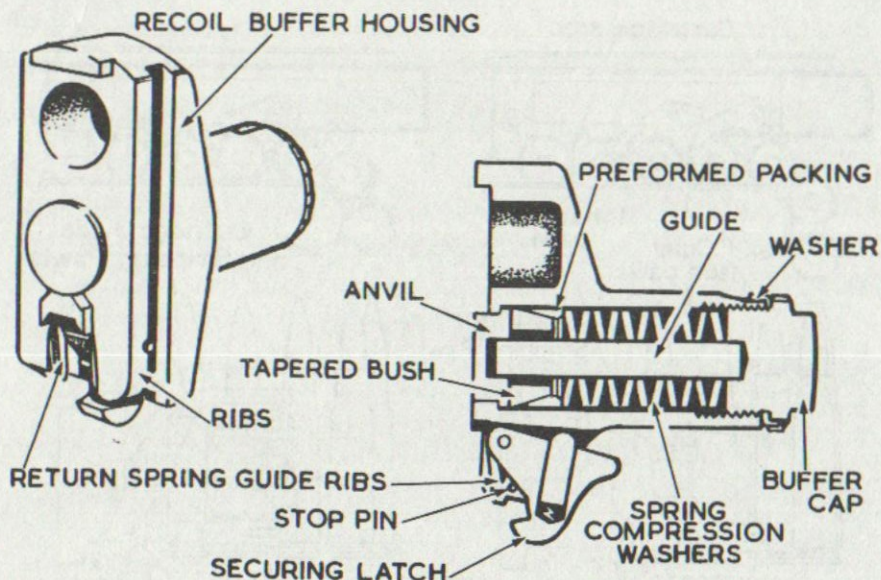

Fig 108 – 7.62-mm MG recoil buffer
- e. *Action of the recoil buffer* – The rearward movement of the piston assembly ceases when the piston post contacts the anvil of the buffer which later assists in the forward movement. The anvil recoils on impact and the movement is communicated to the tapered bushing which is forced into the packing causing it to expand slightly and contact the walls of the buffer housing. This causes a braking effect which, assisted by the compressed spring washers, absorbs most of the shock of recoil (see Fig 108).